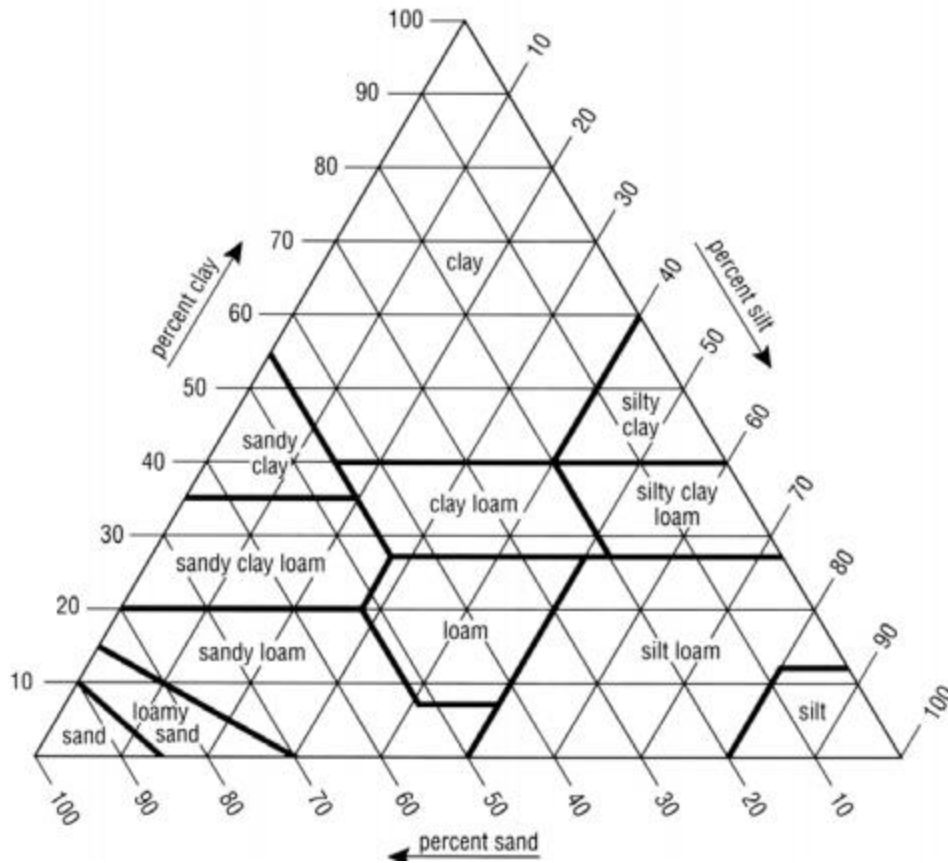
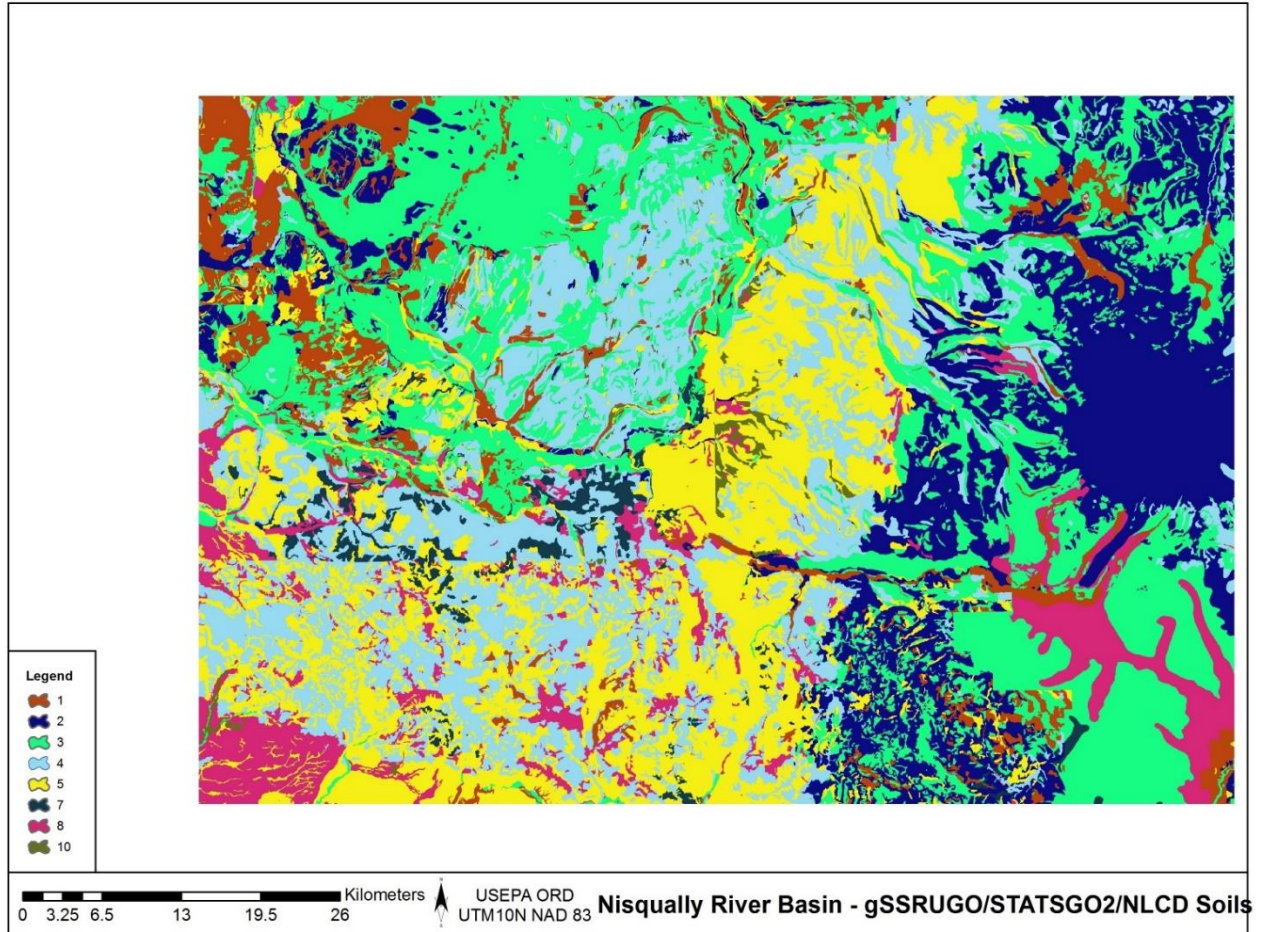

Figure 4. USDA Soil texture triangle
Figure 6. Merged soils, gSSURGO and STATSGO.
- Replaced all missing gSSURGO soils texture cells with STATSGO soil textures, creating a merged high- and low-resolution soils data layer (Table 1, Figure 4, Figure 5, and Figure 6).